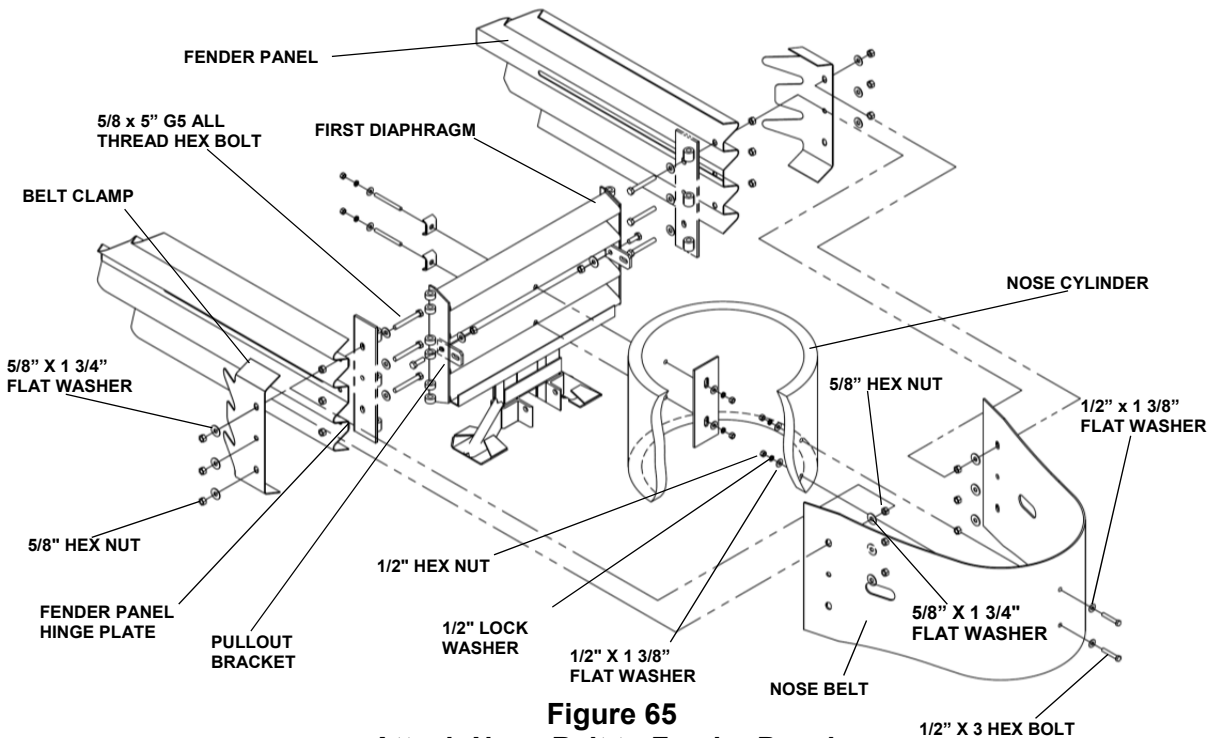

Figure 65
- Using 5/8" x 5" hex bolts, 5/8" x 1 3/4" flat washers, and 5/8" hex nuts, attach hinge plate to Fender Panel as shown in Figure 65 (three places per side).
- Thread second 5/8" nuts onto the assembled bolts. Be sure the faces of the nuts are flush with humps on Fender Panels (see Figure 65). Slide second 5/8" x 1 3/4" flat washers onto bolts (three places per side).